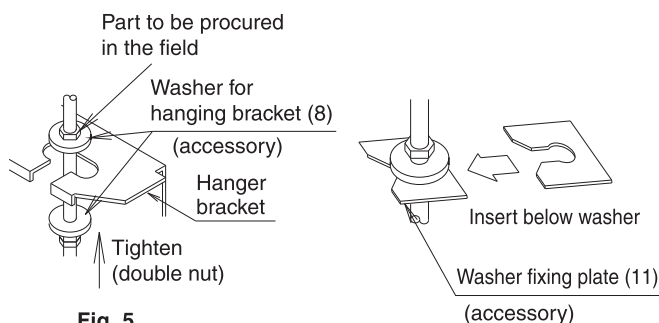

Fig. 5
(1) Install the indoor unit temporarily.
- Attach the hanger bracket to the suspension bolt. Be sure to fix it securely by using a nut and washer from the upper and lower sides of the hanger bracket. (Refer to Fig. 5)